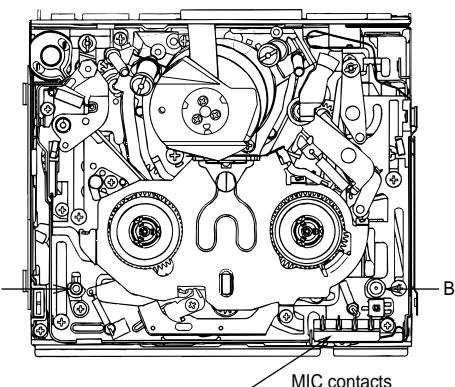

Fig. 2
- (1) Remove the cassette controller assembly (refer to 9-2).
- (2) Referring to 9-1, apply DC3V to the loading motor and put the system into playback mode.
- (3) Taking adequate care so that the master plane does not contact drum, running parts (guide roller, etc.), or the MIC contacts. Fit the master plane holes to the 2 guides (A and B) in Fig. 2.